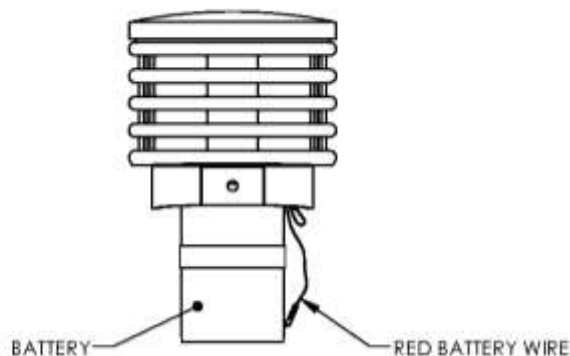

Figure 4.
6. Connect red battery wire to red (positive) terminal (see Figure 4).